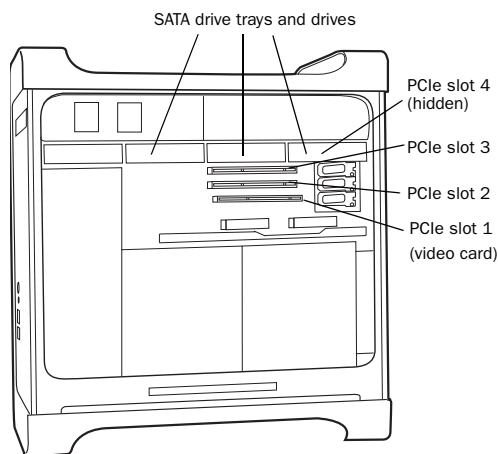

Figure 1. Mac Pro
- 8 Install the Pro Tools|HD Core card into the lowest-numbered slot in the computer (slot 2). This will be the slot closest to the video card, as shown in Figure 1 on page 15.